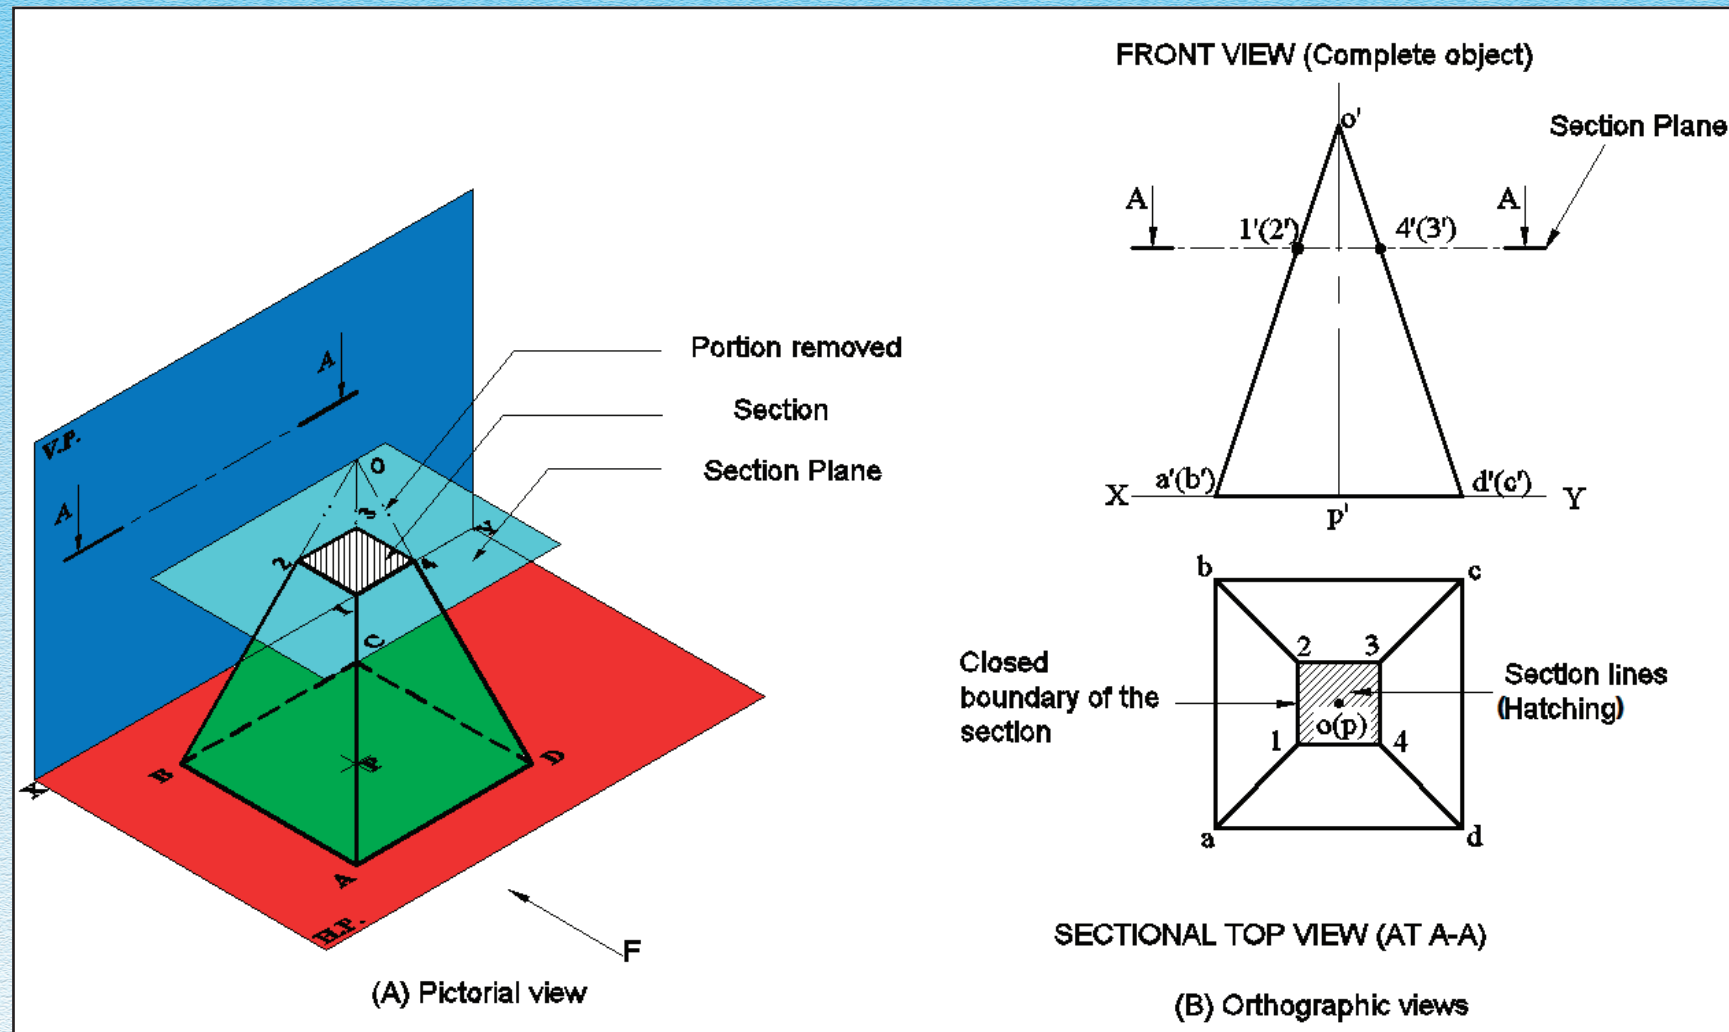

Fig. 5.6
The cutting plane is shown in the orthographic view in Fig. 5.6 (B) where it appears as an edge. This edge is represented as a combination of “Chain Thin” lines as shown clearly in the Fig. 5.7.
As mentioned earlier, this orthographic view shows the surface which has been imaginarily cut or exposed, i.e. the section and also shows the remaining portion of the object. It can be identified with the pulp of the apple alongwith its seeds which is visible after it is cut. Fig. 5.6 shows the pictorial as well as the sectional Top (orthographic) view of a square pyramid.
Drawing of these views is an extension of projection of solids. Hence, the procedure explained in the previous chapter is followed here also. To understand the basic technique, let us consider the example of a square pyramid which is cut by a horizontal section plane as shown in Fig. 5.6.